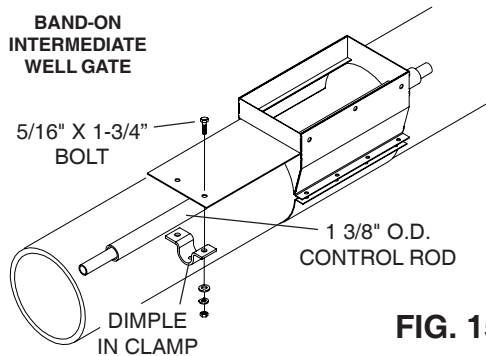
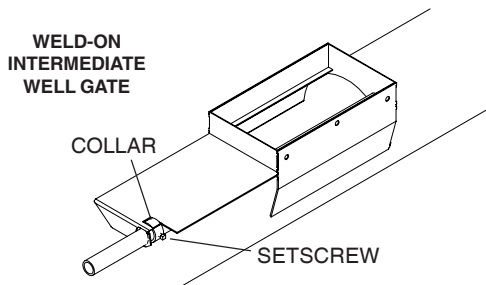

FIG. 15
FIG. 15A
6. For band-on intermediate wells, attach the intermediate bin well gate(s) to the 1 3/8" O.D. control rod (See Fig. 15).
- D. Fasten the control gate clamp to the control gate and control rod. Secure in place using two (2) 5/16 x 1" bolts lockwashers and nuts.
- 6A. For weld-on intermediate wells (See Fig. 15A).